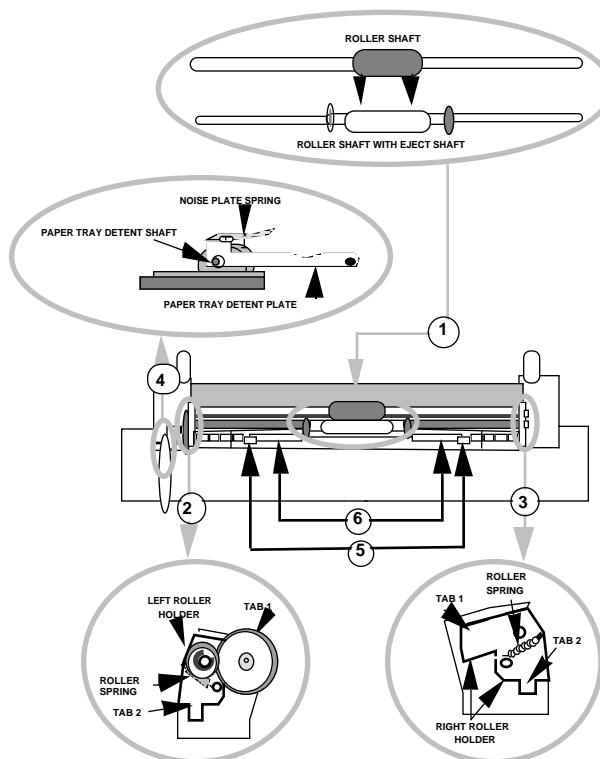

FIGURE 9
1. Locate the left and right roller holder and roller shaft. Position the roller shaft with the eject roller so that the black rubber feeder on the customer's roller shaft lines up with the middle section of the eject roller (Figure 9, #1). Place one side in the left roller holder and connect the spring (Figure 9, #2). Repeat this on the right roller holder.
2. Position the lower paper tray so it is facing you. Place the roller assembly into position (the white eject shaft should be on the bottom). Snap the roller assembly into position by lining up the four tabs (two on each side) and snap it into position (Figure 9, #2 and #3).
3. Locate the paper tray detent plate. Position the plate on the left side (Figure 9, #4). Insert the paper tray detent shaft.
4. Position the upper paper tray on the lower paper tray. Be sure the two tabs located at the front slide into the lower half (Figure 9, #5). Snap the tray into position.
5. Reconnect the paper tray locks (Figure 9, #6).